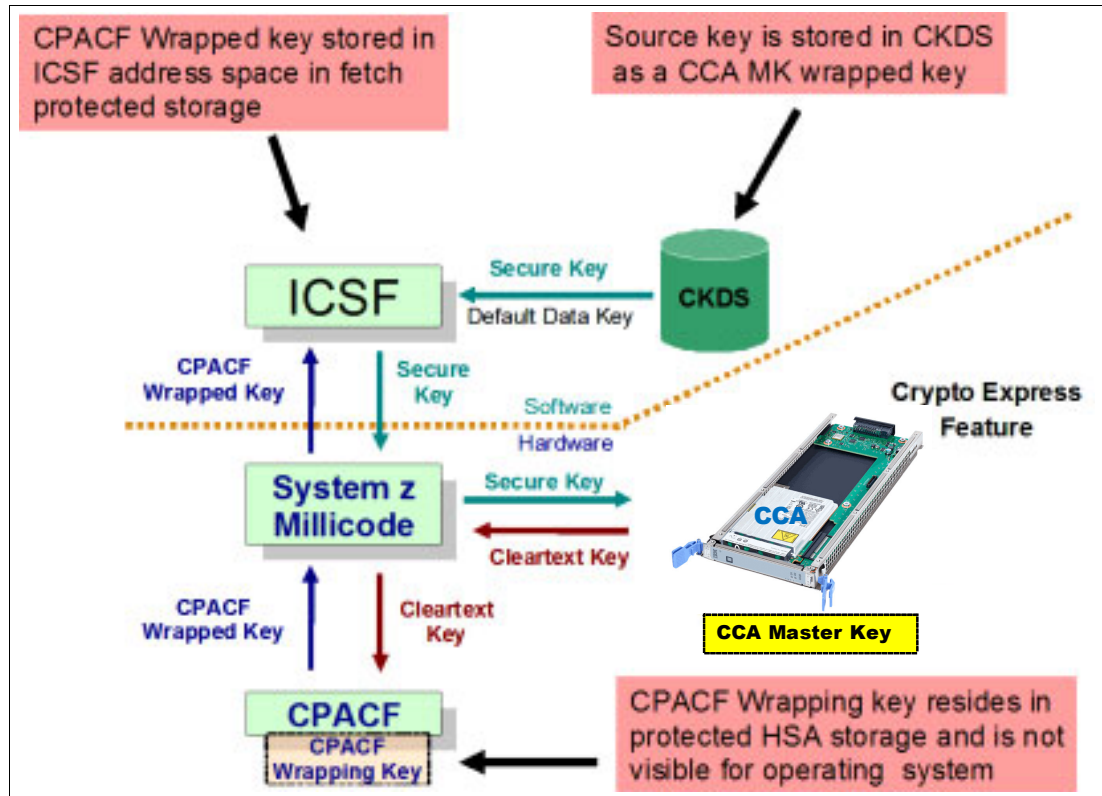

Figure 6-5 CPACF key wrapping
Wrapping keys are generated during the clear reset each time an LPAR is activated or reset. No customizable option is available at the Support Element (SE) or Hardware Management Console (HMC) that permits or avoids the wrapping key generation. Figure 6-5 shows this function flow.
A new segment in the profiles of the CSFKEYS class in IBM RACF restricts which secure keys can be used as protected keys. By default, all secure keys are considered not eligible to be used as protected keys. The process that is described in Figure 6-5 considers a secure key as being the source of a protected key.